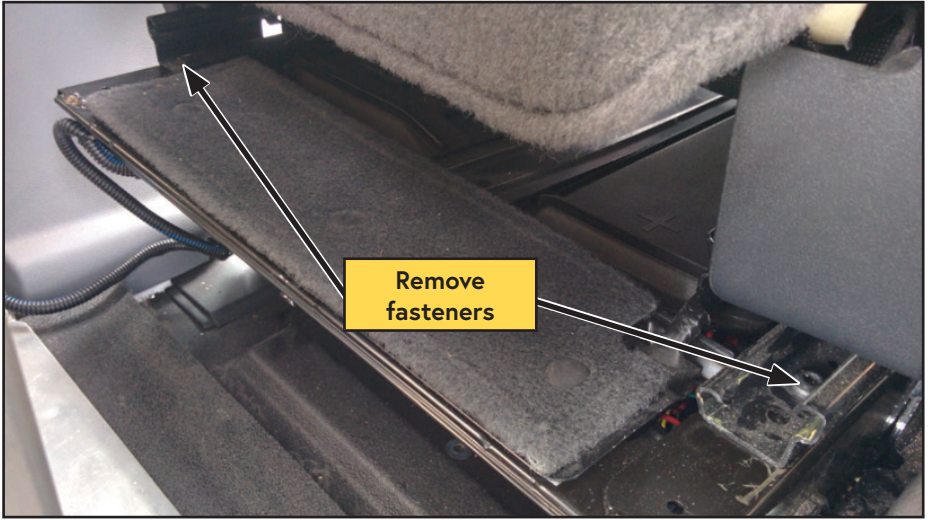

Figure 7 — Driver seat (rear)
- Move the driver seat completely forward and remove the (x2) rear fasteners (Figure 7).